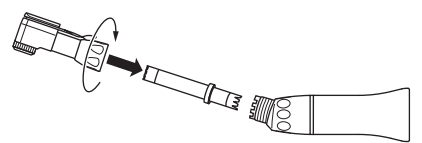

Fig. 11
- 2) Pull out the transmission gear assembly from the head. (Fig.11)